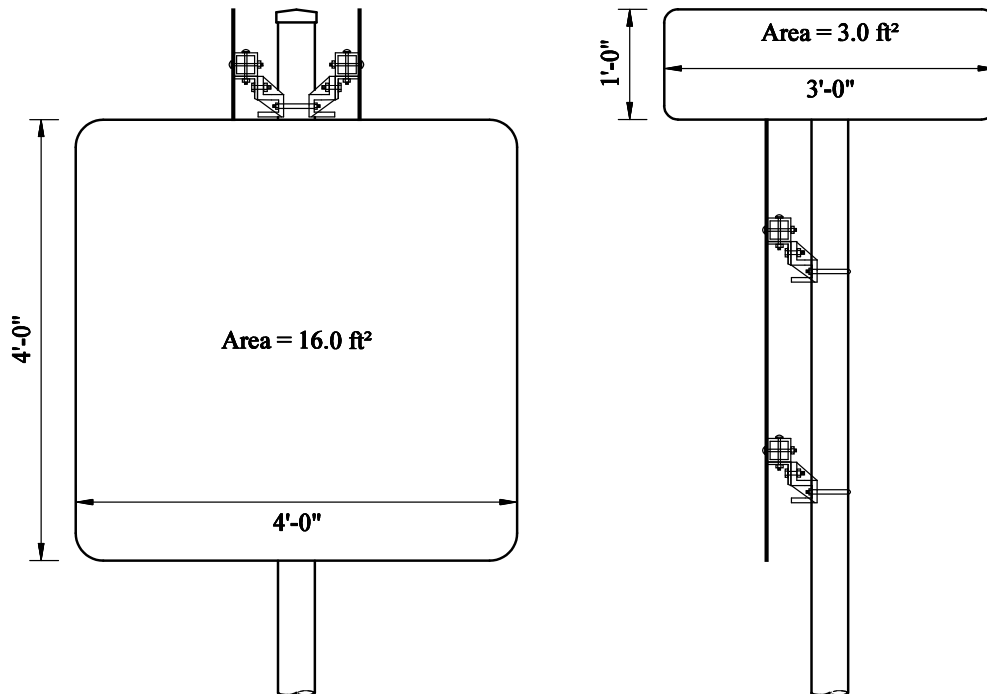

Figure 7 – Design Area Example
37. **Design Area:** The largest total surface area of the signs viewed from any given side. In Figure 7, the design area would be 16.0 ft² not 19.0 ft². The design area is measured in square feet and by default is calculated automatically from the **Sign Height** and **Sign Width** fields. If the design area is different than what is calculated, enter in the correct value.